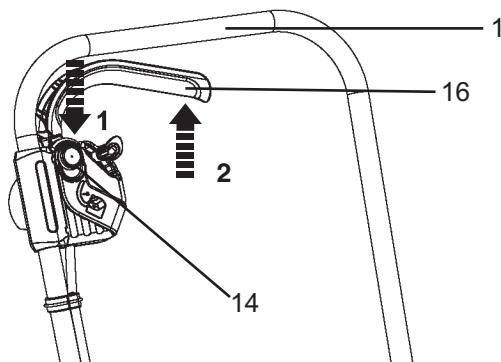

Fig. 13
1. Ensure the start lever (16) is released.
2. Press the lock-off button (14) and hold it in position (Fig. 13, step 1).
3. Squeeze the start lever (16) towards the handle (1) to switch the product on (Fig. 13, step 2). Hold the start lever (16) in position during operation.
4. Release the start lever (16) to switch the product off.